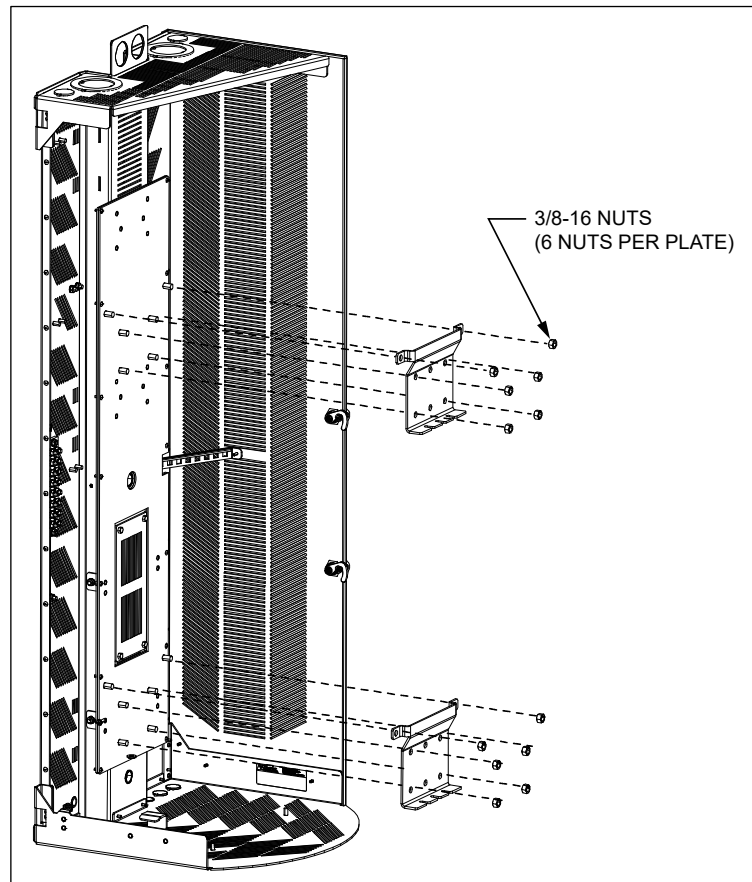

Figure 5 **Mount Hanging Bracket Base Plates**
3. Install the two hanging bracket base plates (Figure 5). Secure using six 3/8-16 nuts per plate.